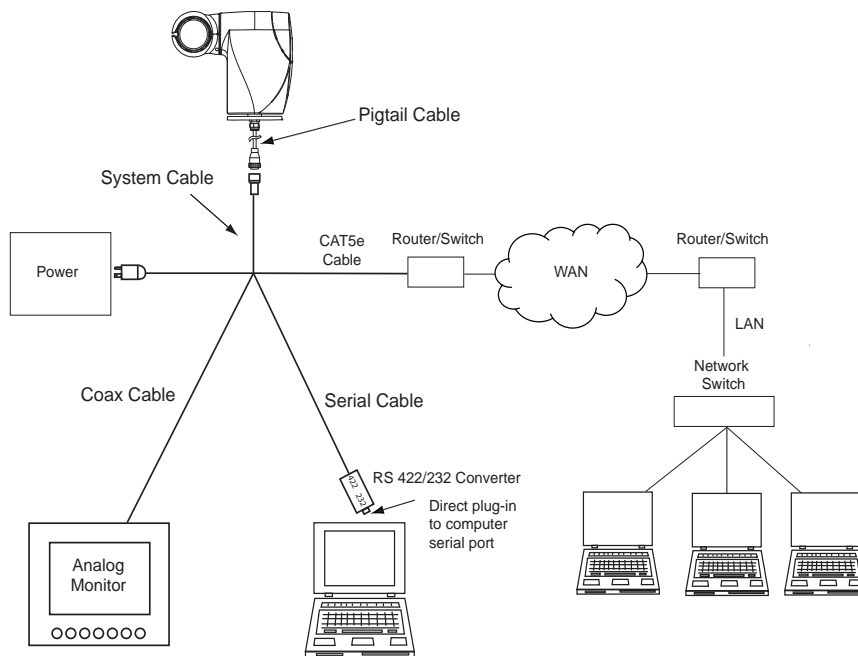

Figure 2. Interconnection Diagram, Analog and IP Output
- Figure 2 shows a setup of the Camera using analog and IP output.